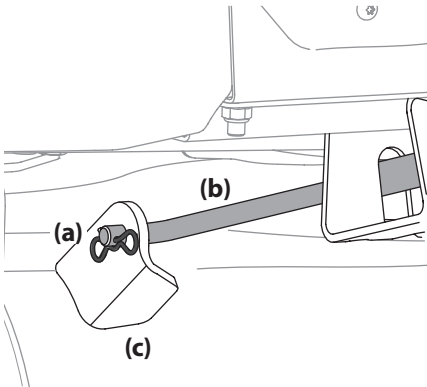

Figure 4-12
6. Pull the cotter pin (a) out of the front deck lift rod (b) securing it to the deck. See Figure 4-12. Slide the deck lift rod out of the front hanger bracket (c).
6. Reinstall the front deck lift rod and secure in place with the cotter pin. Refer to Figure 4-12.